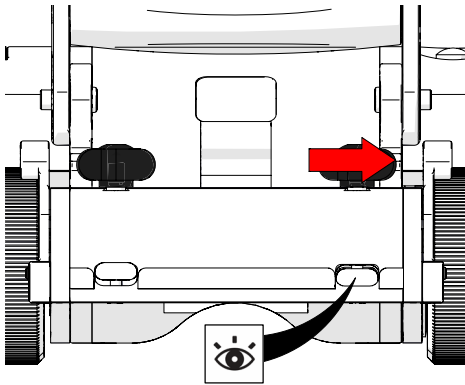

Fig. 80 - Lower dovetail jaws
3. Rotate the black wing knobs aligning the dovetail jaws with the mount's grooves (Fig. 80).